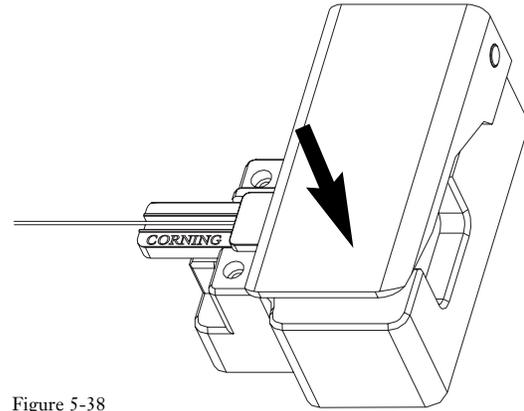

Figure 5-38
**5.7-6** While carefully holding the handler in position, with the coating butted against the elastomeric pad, slowly press the cleaver's handle as far as it will go (Figure 5-38).